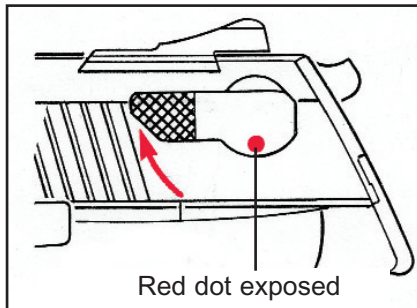

FIGURE 3
8. If the pistol is to be fired immediately, the manual safety can be rotated upward to its “fire” position (see Figure 3, p. 11). The firing pin is still blocked at all times by the internal firing pin block unless the trigger is pulled all the way to the rear.